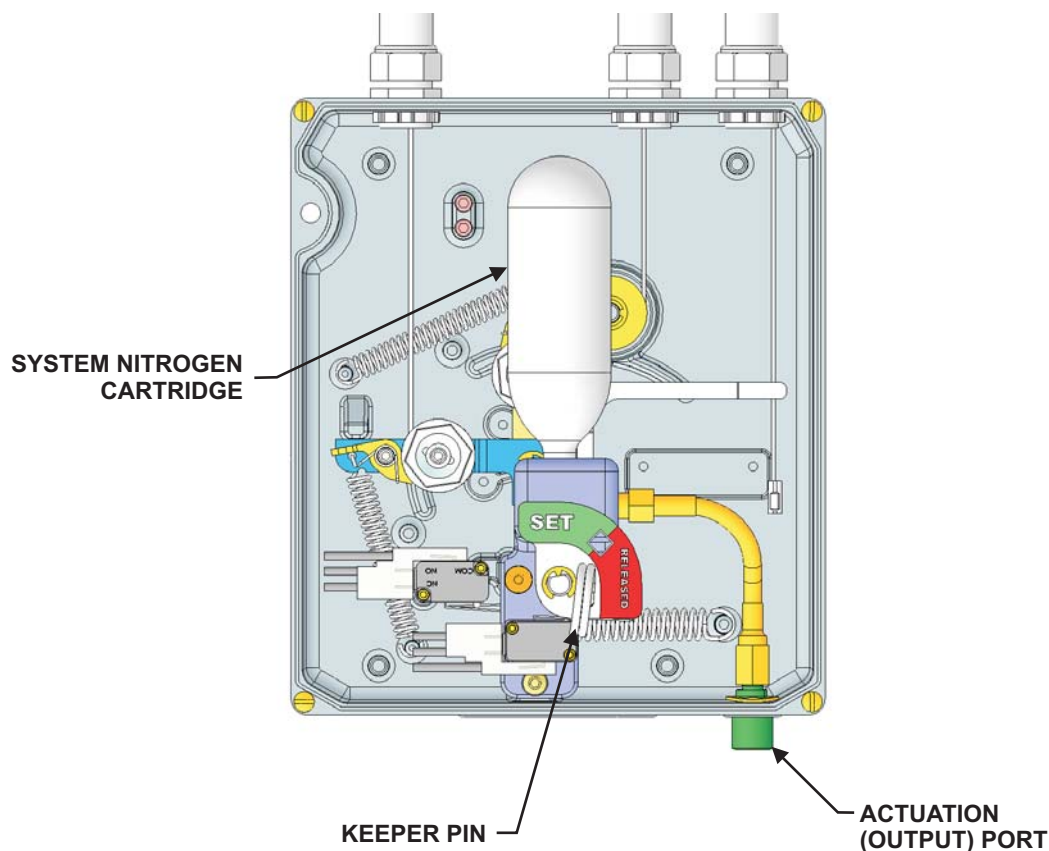

Figure 5-3. XV Control System, Internal View
3. Remove the cover from the XV Control System. Install Keeper Pin (P/N 60-9197108-000). See Figure 5-3 for Keeper Pin location.
4. Remove the System Nitrogen Cartridge (P/N 87-120043-001). Refer to Figure 5-3 for location in *XV* Control System.
6. Verify installation of the lockout screws for appropriate usage (refer to Figure 5-3).
Note: The Keeper Pin should be in place; therefore, the Cam/Flag will not require resetting (refer to Figure 5-3).